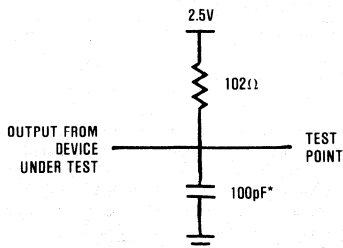

FIGURE 7.
- All A.C. parameters tested as per test circuits in Figures 7—9. Input rise and fall times are driven at 1ns/V.